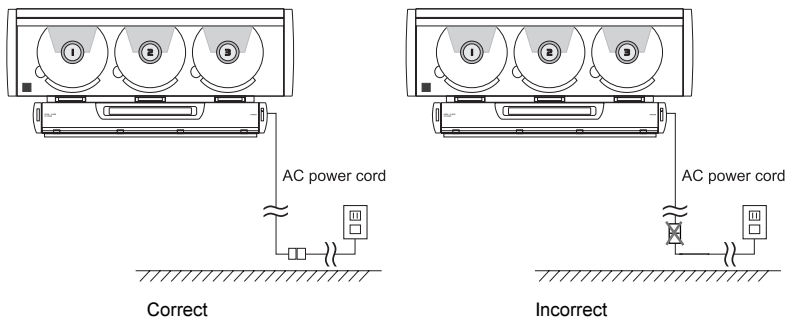

Figure 2
- If there is no AC outlet directly below the desired mounting location, you may use a UL approved extension cord. In this case you should allow the AC plug of the main unit to reach all the way to the floor and connect the extension cord on the floor, not above the floor. See Figure 2.